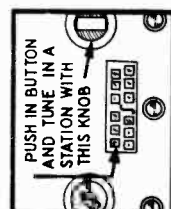

FIG. 8
6. Push any button which you wish to set to a particular station. Be sure the button is pushed all the way in (see fig. 8).